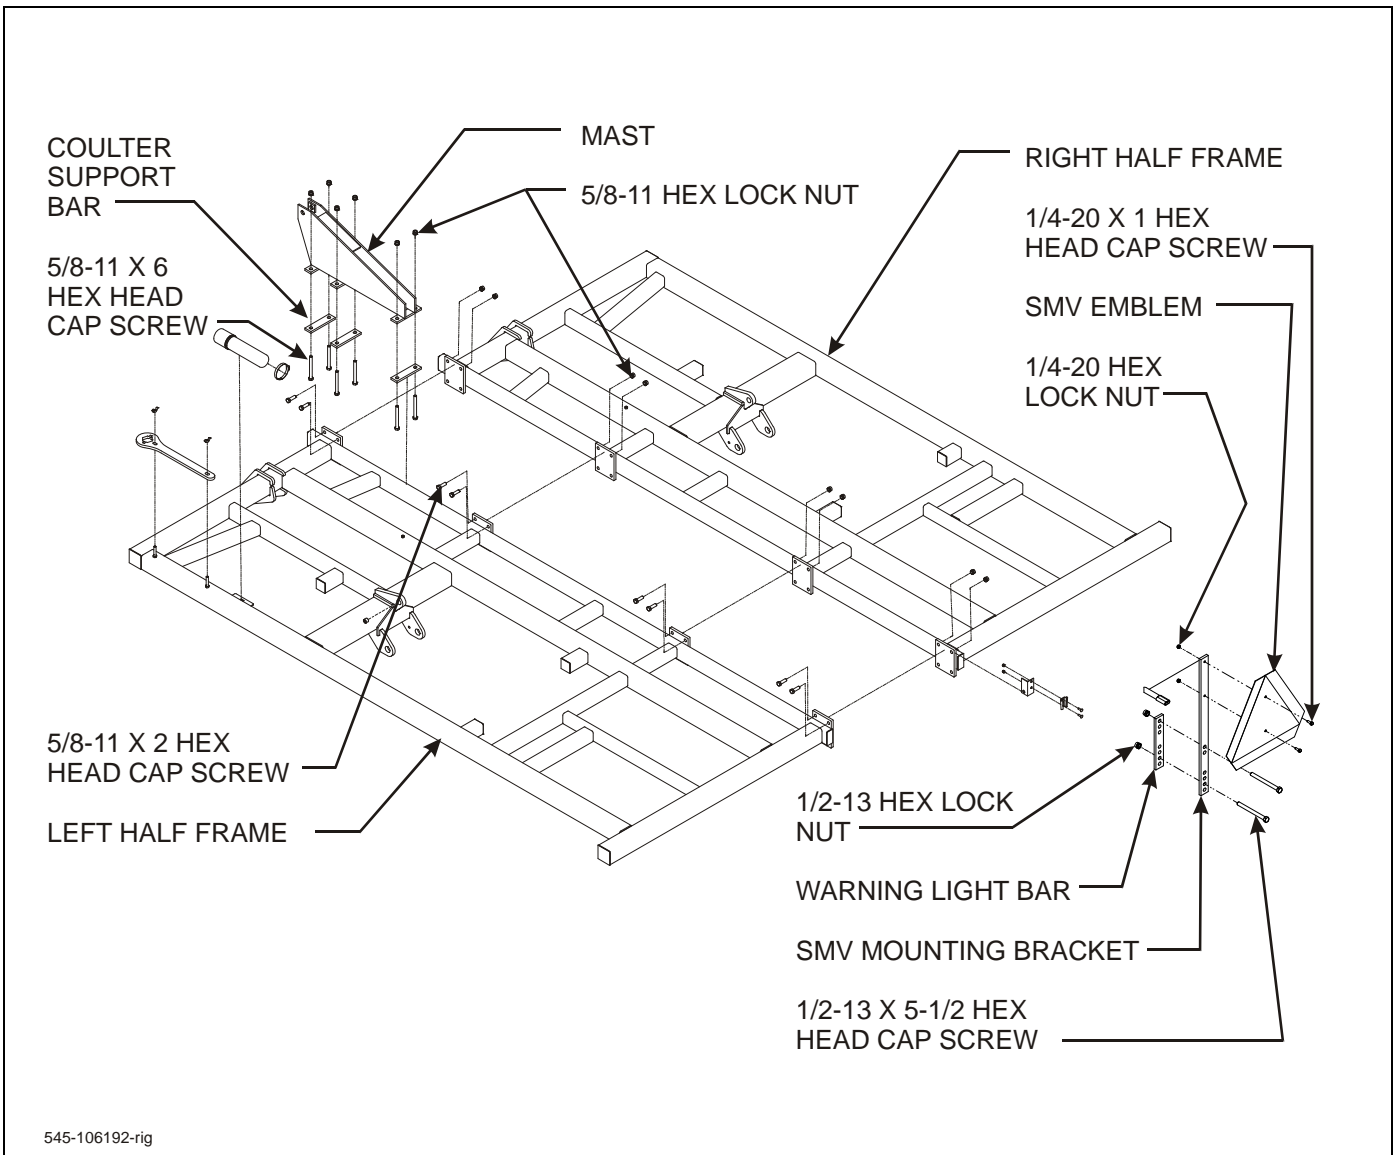

Figure 3-1: Frame Assembly - Rigid Models
1. Bolt frame halves together using 5/8-11 x 2 hex head cap screws and hex lock nuts (**See Figure 3-1.**)